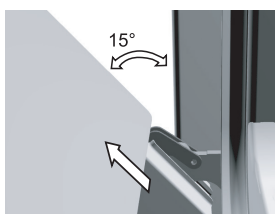

Figure 2
- Slowly close the door until the clips are pressed against the supports. At approximately 15° (relative to the closed door position), pull the door slightly upward and pull them out from both hinge supports on the appliances (Figure 2).